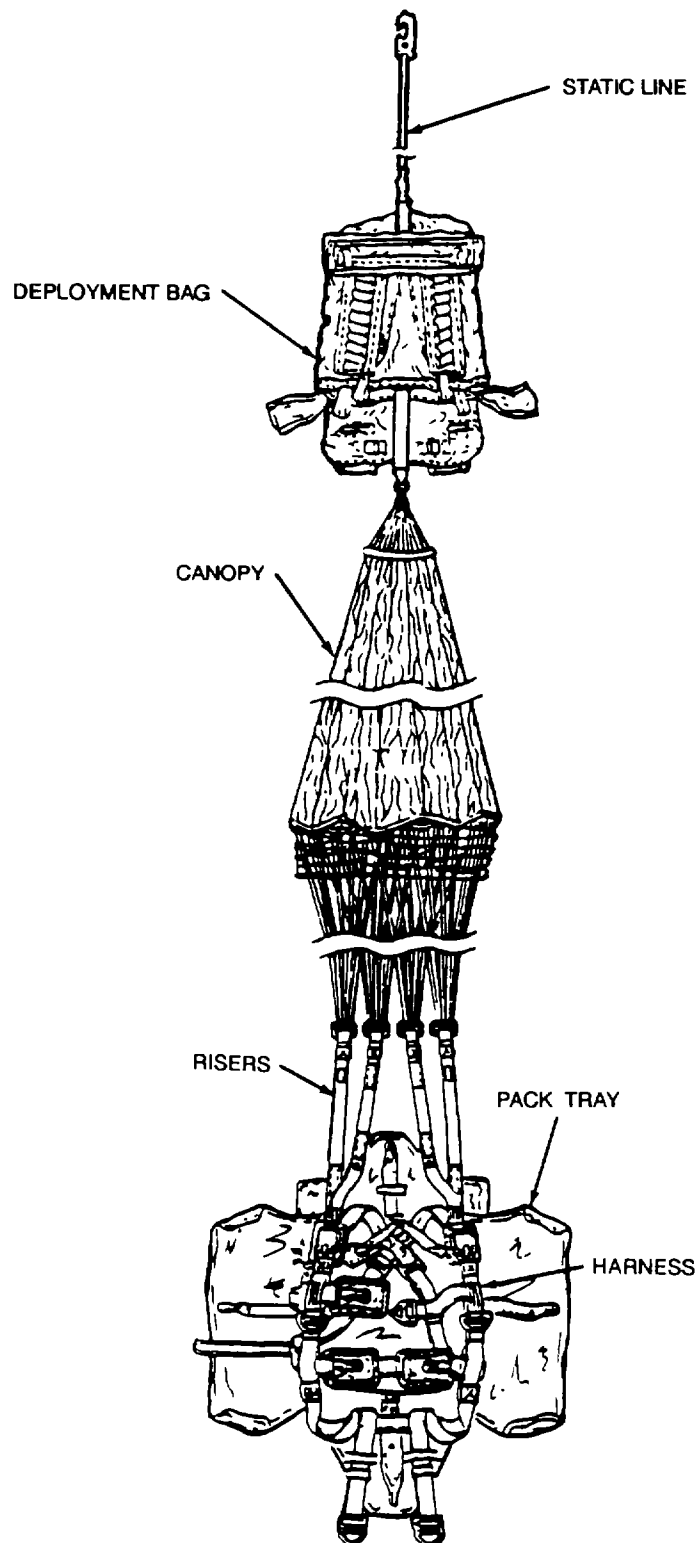

Figure 1-1. 35-Foot Diameter, T-10B Troop Back Parachute Assembly, Deployed.
a. Type of Manual. This manual provides unit and intermediate maintenance instructions for parachute, NSN 1670-00-591-0720. This is a 35-Foot Diameter Troop Back Parachute (Figure 1-1). This manual also provides a Repair Parts and Special Tools List located at Appendix C.